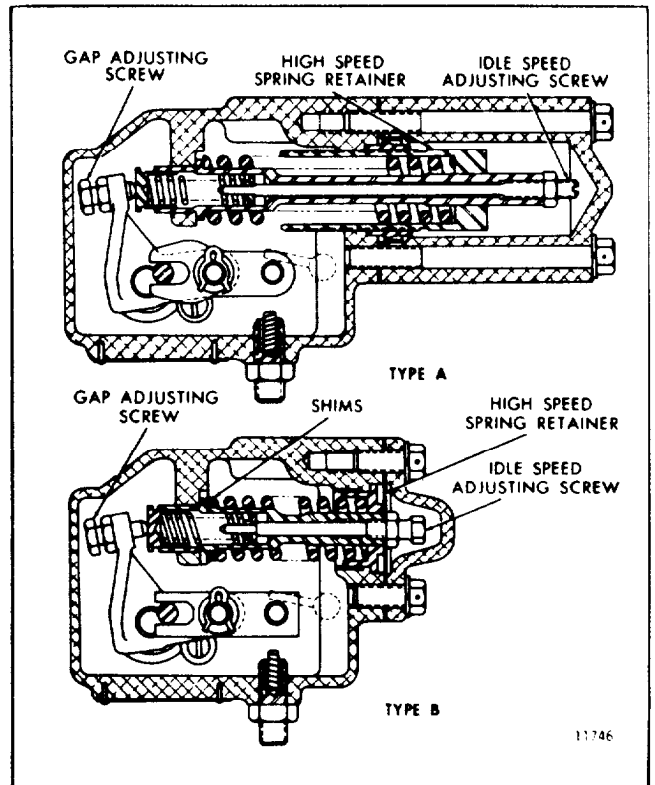

Fig. 6 - Governor Spring Assemblies
**TYPE A GOVERNOR SPRINGS (Fig. 6):**
**TYPE B GOVERNOR SPRINGS (Fig. 6):**
b. Remove the high-speed spring from the high-speed spring plunger and add or remove shims (Fig. 6) as required to establish the desired engine no-load speed.